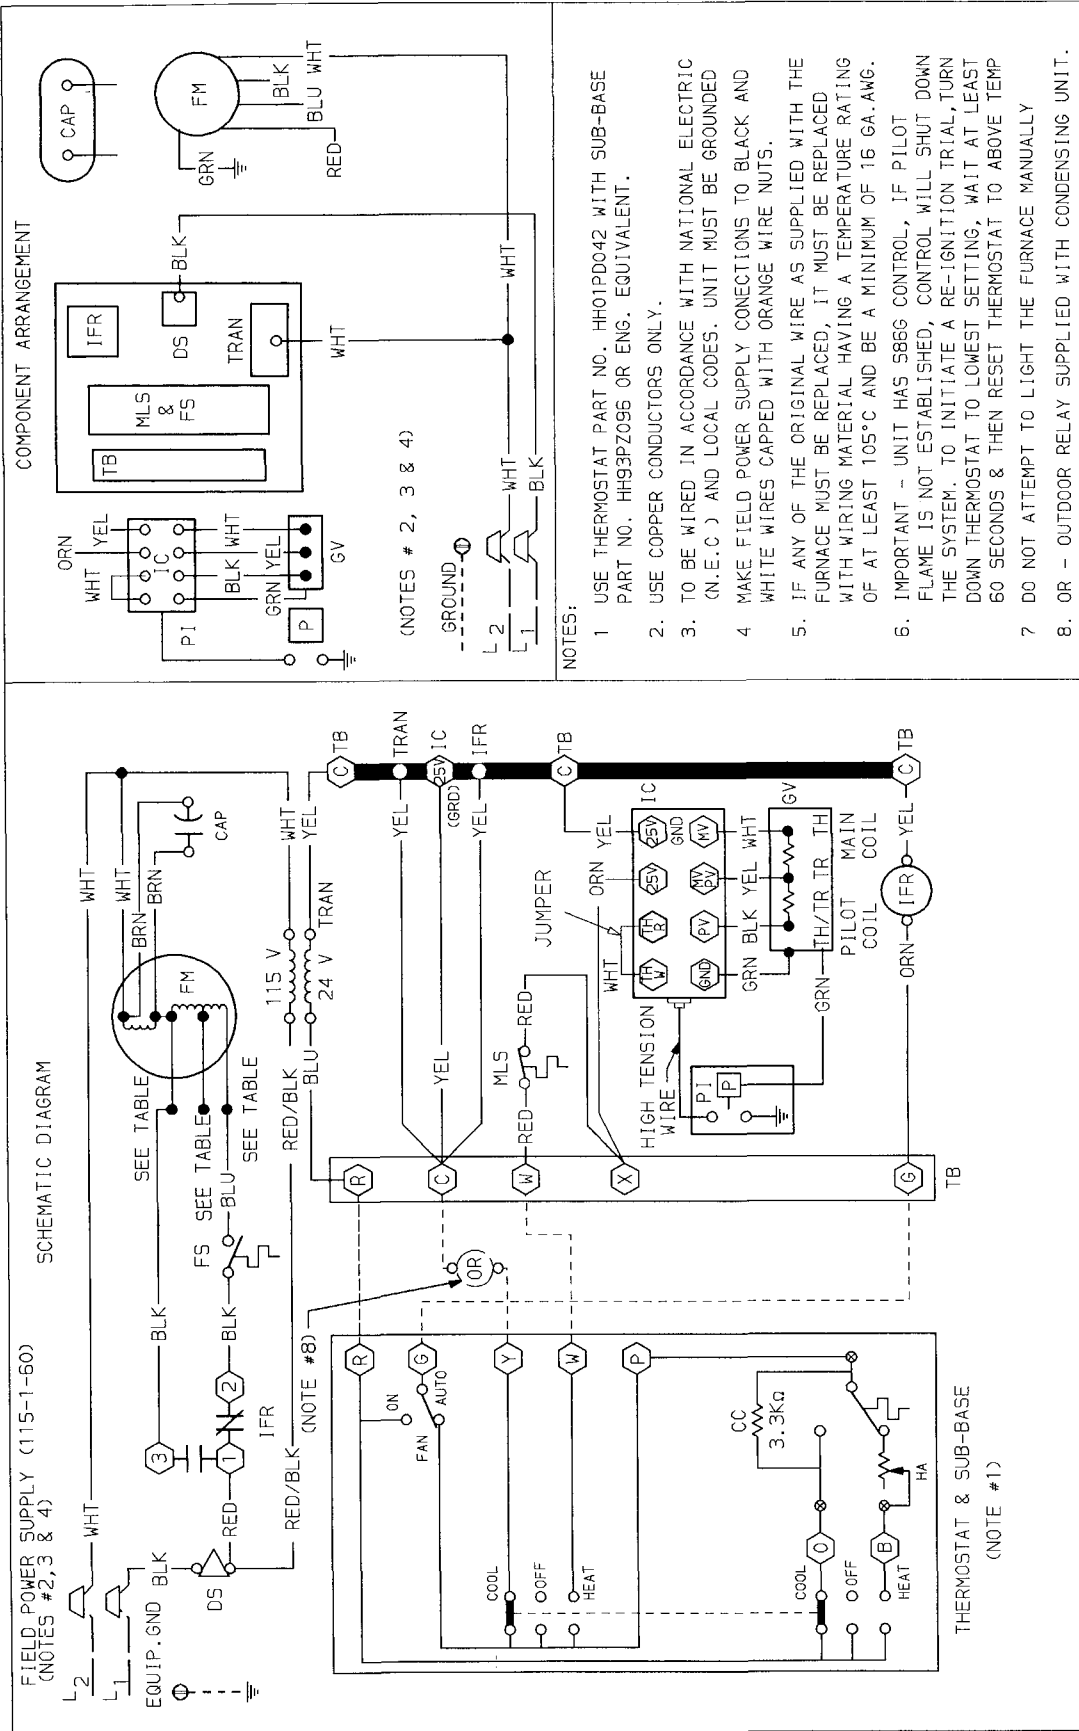

Fig. 6 — 58ED Furnace Wiring Label — Heat/Cool
Step 7 — Make Electrical Connections — The control system depends on the correct polarity of the power supply. Connect field power wiring and field ground wire as shown in Fig. 6 and 7.